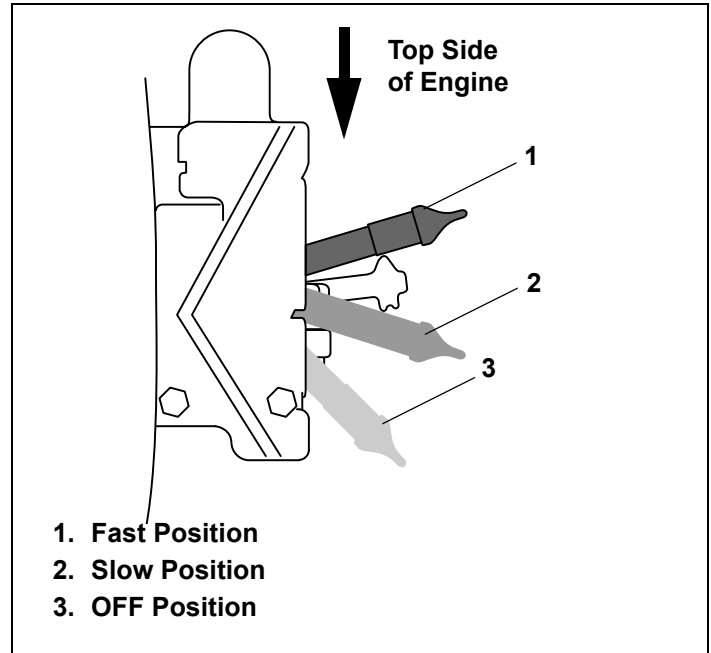

Figure 12. Engine Speed Control
*If restarting a warm engine after a short shutdown, move Engine Speed Control to "FAST" position and move Choke Control to "NO CHOKE" position. See Figures 12 and 15.*
- b. Next, move Choke Control to "NO CHOKE" position. See Figures 12 and 15.
- c. *Finally, move Choke Control to "NO CHOKE" position. See Figures 12 and 15.*